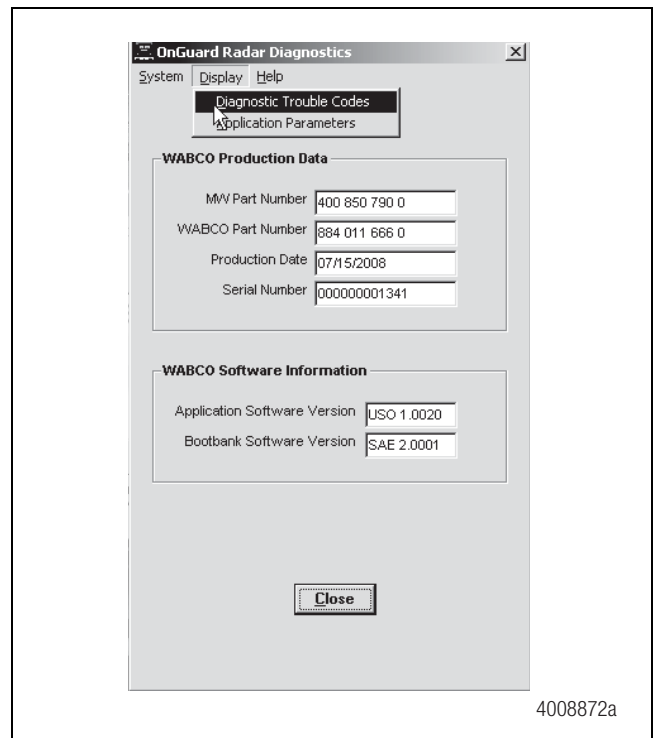

Figure 2.11
2. From the pull-down menu, select “Diagnostic Trouble Codes” to bring up the fault information screen. Figure 2.11.